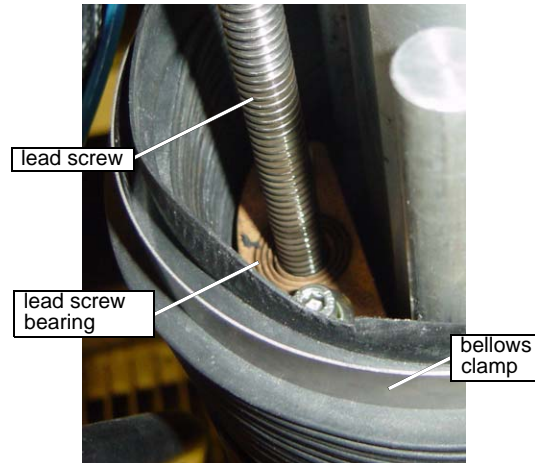

Figure 6-18: Motorized Z Lead Screw Bearing Location
Note: *Jet-Lube's Arctic Grease should be used for all lubrication points except for the Motorized Z lead screw bearing (Figure 6-18) which uses 30 weight oil.*
9. Remove the top Z-axis bellows clamp and drop down the bellows to expose the lead screw bearing (Figure 6-18):